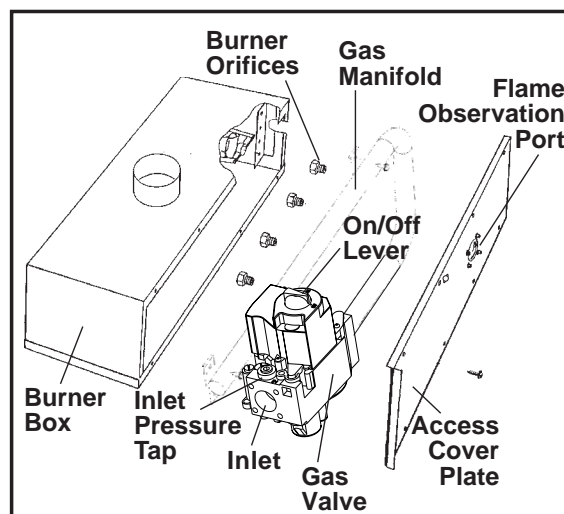

Figure 24. Typical Installation For Sealed Burner Box With Access Cover Plate
1. Remove the four (4) fasteners that secure the gas manifold to the burner box, as shown in Figure 24. Carefully remove the gas manifold assembly from the burner box. Note that the gas manifold assembly consists of the gas valve, the gas manifold, and the orifices.
2. Carefully remove the burner orifices from the gas manifold, as shown in Figure 24.